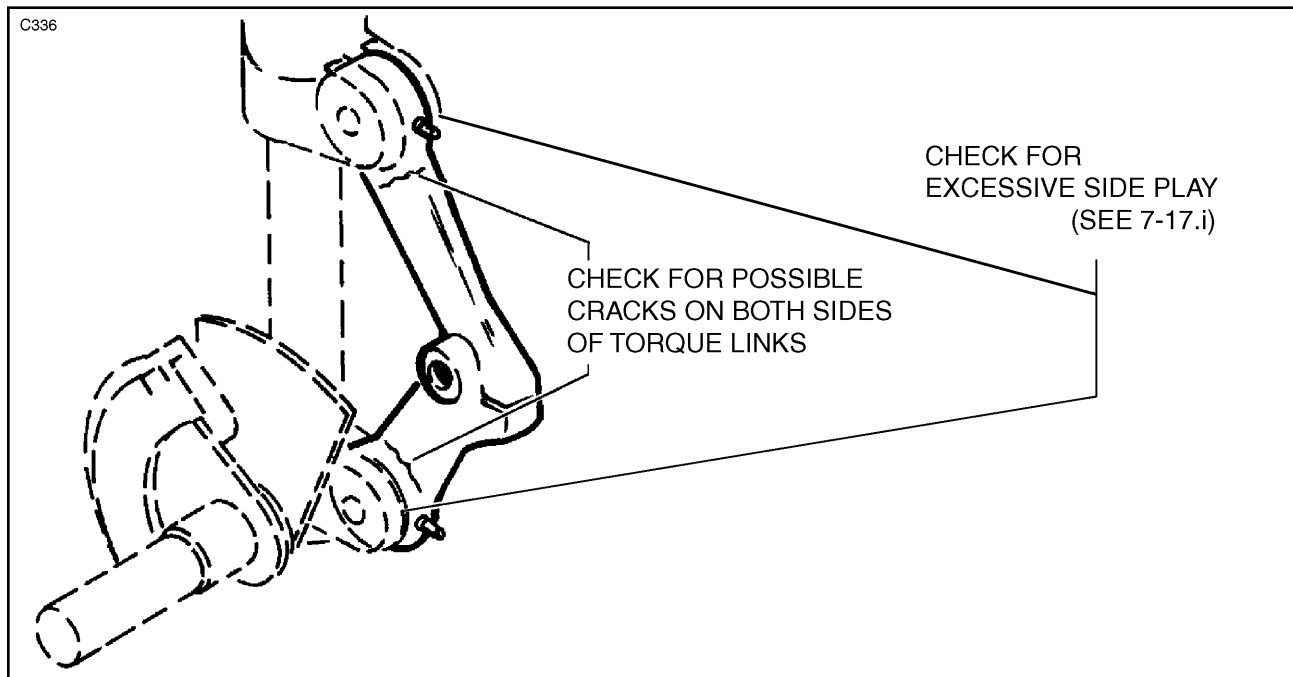

Figure 3-23. Inspection of Main Landing Gear Torque Links
- (a) Inspect each main landing gear torque link for cracks in areas shown in Figure 3-23. These cracks may form just behind the large boss which attaches to the strut or to the wheel, and in the center of the link progressing toward the edge. The following steps should be used to make this inspection: